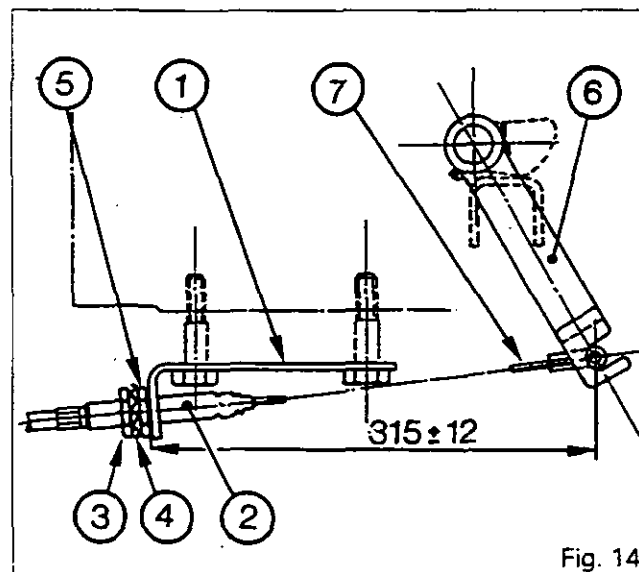

Fig. 14
71. Fit the outer cable stop (2) in the bracket (1) (Fig. 14).
72. Attach the end of the cable (7) to the lever (6) (Fig. 14).
73. Place the handbrake lever in the released position. Adjust so as to obtain a distance of $315 \text{ mm} \pm 12$ between the nut (5) and the axis of the end of the cable (7) (Fig. 14).
74. Tighten the lock-nut (3) on the washer (4) (Fig. 14).
Note: For good alignment of the outer cable stop (2) and the cable (7), the nut (5) and the lock-nut (3) are mounted in front of the bracket (1) (Fig. 14).